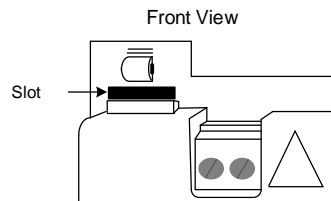

Figure 90: Remove top housing from base
1. Insert a slotted screwdriver into the slot (Figure 90). A slot is located on each corner of the RMC.